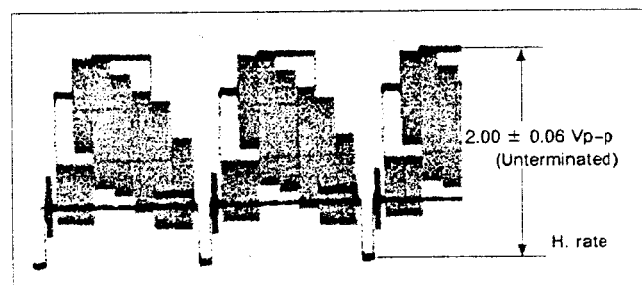

Fig. 3-1-12 PB Y level
- If necessary, replace R25 with the variable chip resistor 4822 101 10852 and adjust it for 2.00 ± 0.06 Vp-p, as in Fig. 3-1-12.